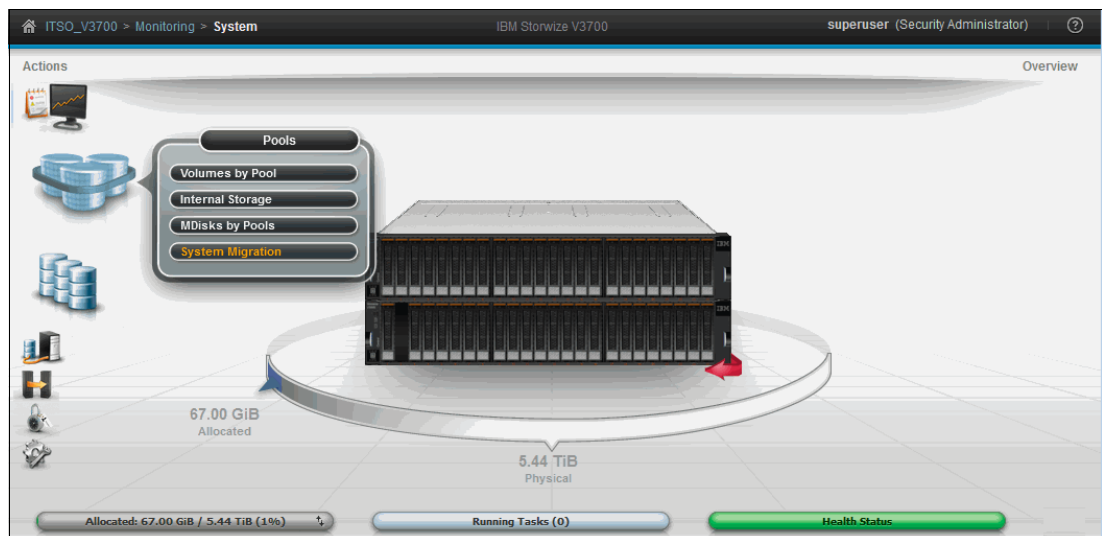

Figure 6-12 Pools menu
1. Select **System Migration** in the **Pools** menu to open the System Migration pane, as shown in Figure 6-12. The System Migration pane provides access to the Storage Migration wizard and displays the migration progress information.